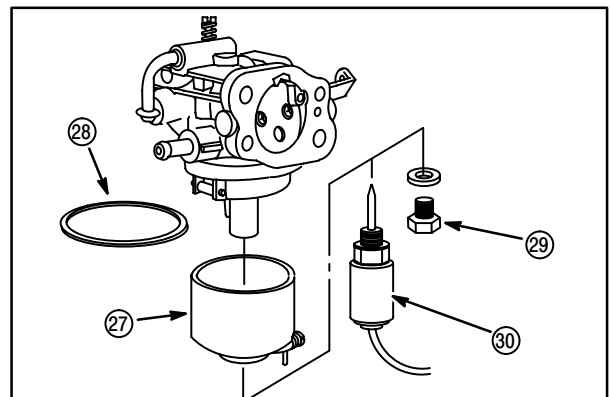

Fig. 57
19. Install bowl gasket (28), float bowl (27), washer and screw (29) or anti-afterfire solenoid (30), if equipped, **Fig. 57**.